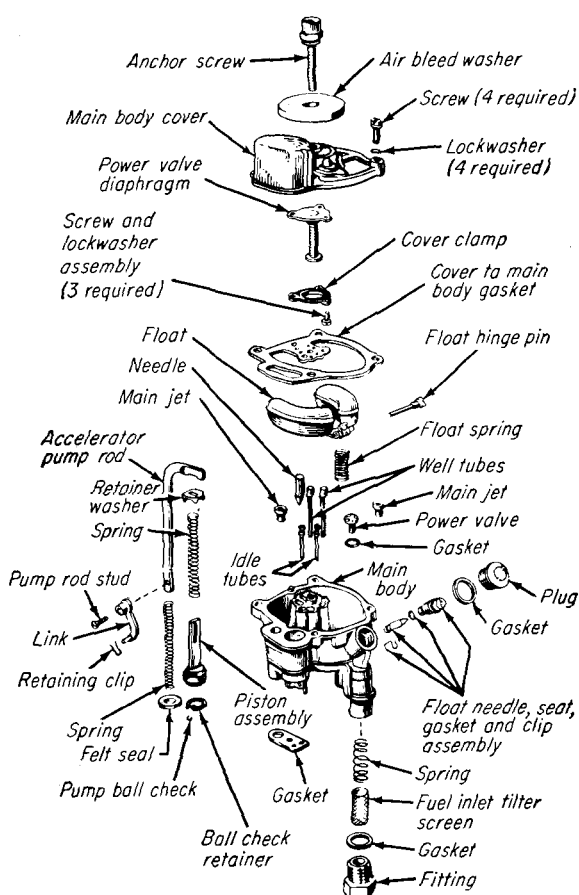

FIG. 10-32. Main body disassembled. (Ford Motor Company)
2. Disassemble main body as follows (refer to Fig. 10-32). Re-